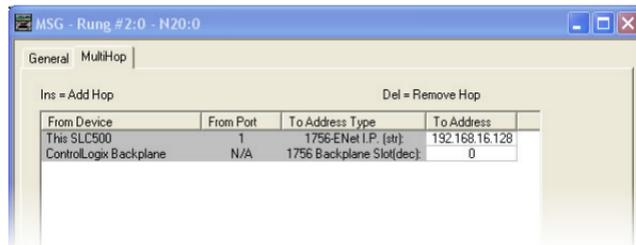

Figure 113: MSG Configuration, “MultiHop” Tab
- e) Under the “MultiHop” tab settings, set the “To Address” in the first row to the inverter’s IP address, and the “To Address” in the second row to 0. Refer to Figure 113.